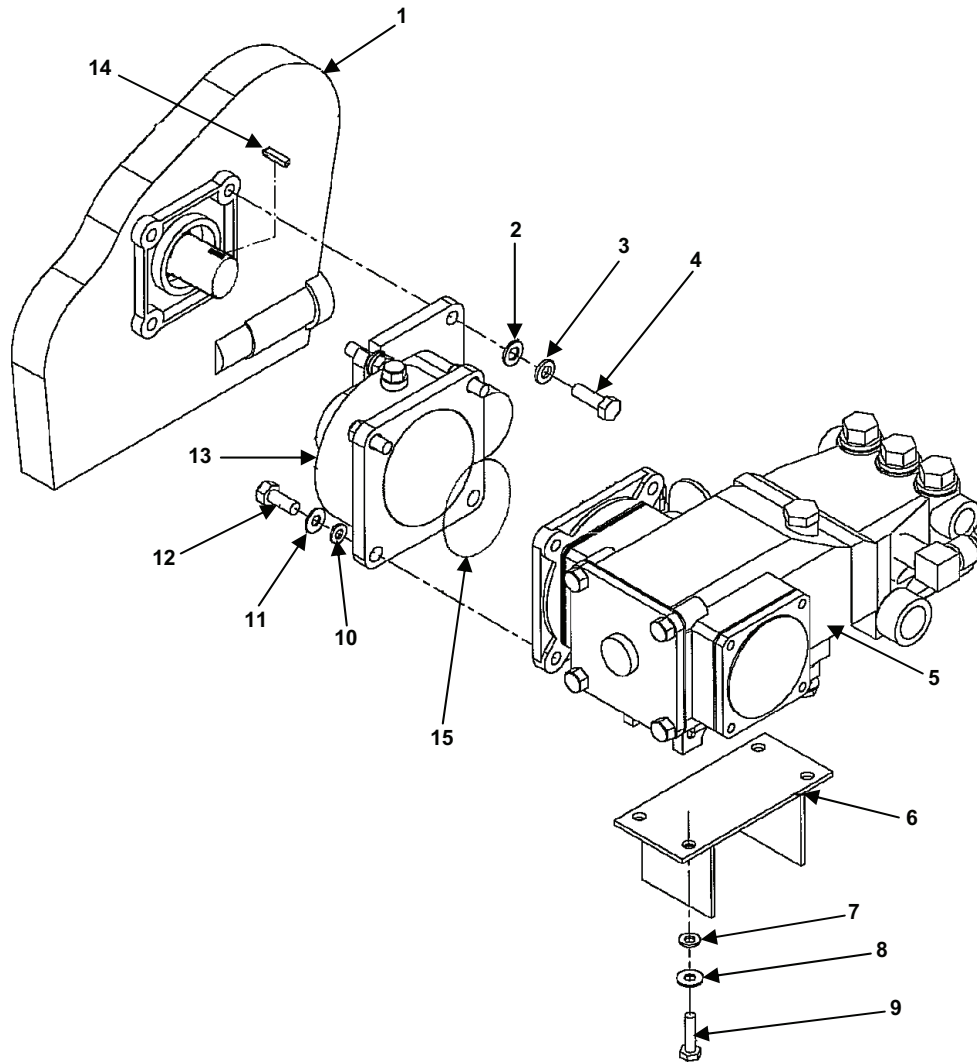

Figure 2. Gearbox/High-Pressure Pump Removal.
3. Separate the high-pressure pump (Figure 2, item 5) from mounting base (Figure 2, item 6). Remove bolts (Figure 2, item 9), lock washers (Figure 2, item 8), and washers (Figure 2, item 7).
4. Remove bolts (Figure 2, item 4), lock washers (Figure 2, item 3), and washers (Figure 2, item 2).
5. Remove the gearbox (Figure 2, item 13) and high-pressure pump (Figure 2, item 5) from the engine (Figure 2, item 1).
6. Remove the key (Figure 2, item 14).
7. Separate the gearbox from (Figure 2, item 13) from the high-pressure pump (Figure 2, item 5). Remove bolt (Figure 2, item 12), lock washers (Figure 2, item 11), and washers (Figure 2, item 10)